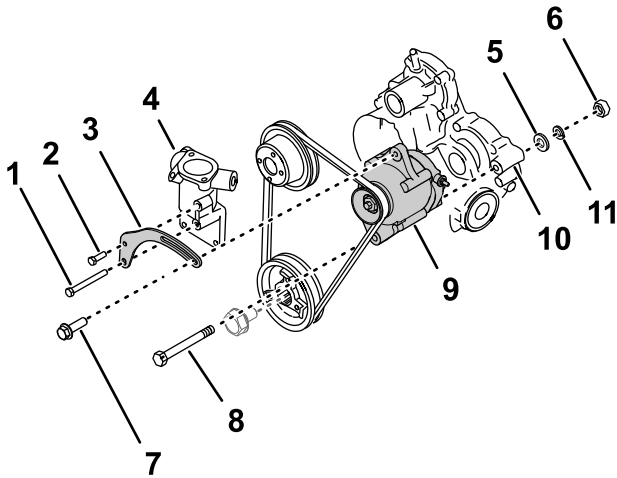

Figure 243
- Align the holes in the new belt tension bracket with the holes in the thermostat housing (Figure 243).
- Assemble the belt tension bracket to the thermostat housing and cylinder head with the short tensioning-bracket bolt in the upper hole and the long tensioning-bracket bolt in the lower hole (Figure 243).
- Align the lower hole in the alternator (60 A) to the hole in the gear case of the engine and slip the belt over the alternator pulley (Figure 243).
- Loosely assemble the nut (10 mm) onto the pivot bolt (Figure 243).
- Assemble the alternator-lock bolt through the slot in the belt tension bracket and the threaded hole in the alternator (Figure 243).
- Rotate the alternator outward until you attain belt tension that allows the belt to deflect 10 mm (3/8 inch) when 4.5 kg (10 lb) force is applied to the belt, midway between the pulleys (Figure 243).